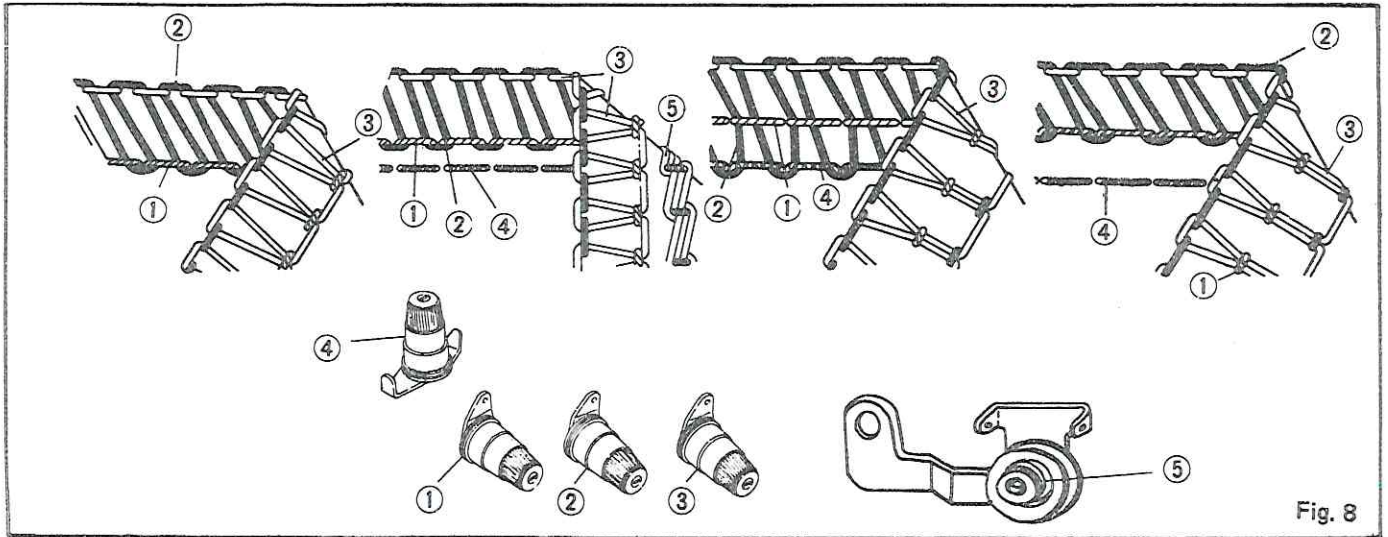

Fig. 8
(1) Tension Nuts Adjustment. Fig. 8
- The Tension Nut ① controls the overlock needle thread.
- The Tension Nut ② controls the upper looper thread.
- The Tension Nut ③ controls the lower looper thread.
- The Tension Nut ④ controls the double chain needle thread or left side overlock needle thread.
- The Tension Nut ⑤ controls the double chain looper thread.
Ajuste de los postes de tensión. Fig. 8
Réglage des écrous de tension Fig. 8